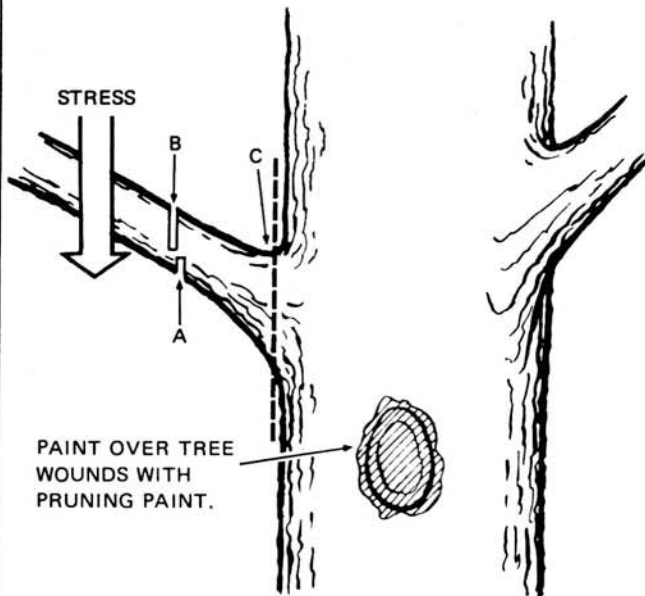

Figure 8.
1. Always work to prevent pinching of the chain and splitting of the wood or stripping of the bark. (Refer to Figure 8.